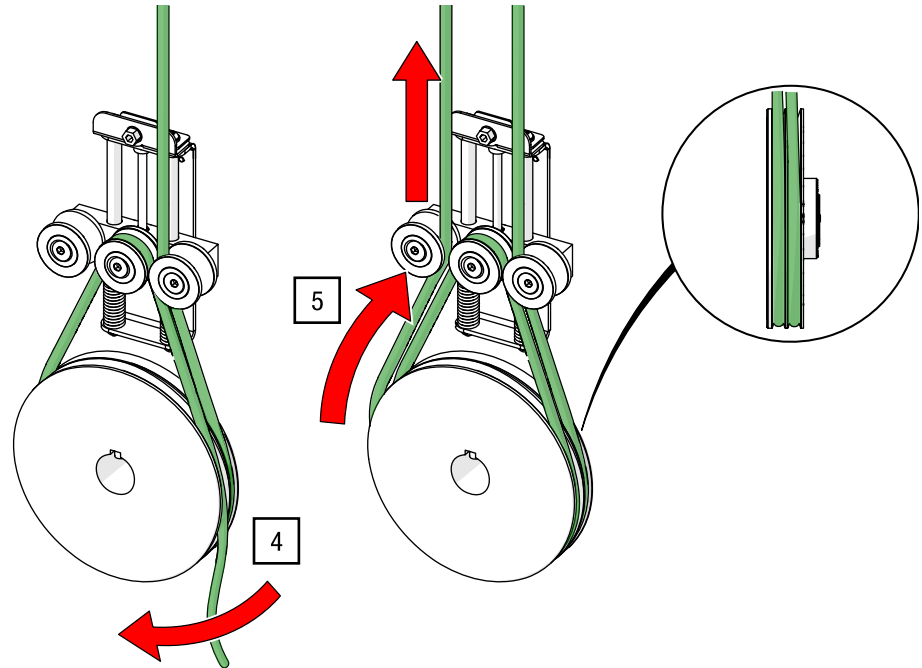

Fig. 128: Guide the cord around the outer groove of the traction disc
4. Guide the operating cord up over the outer groove of the traction disc (see Fig. 128).
5. Guide the operating cord up passing the left guide of the tensioning unit and over the head pulley back into the operating cord system and attach it on your master runner (see Fig. 128).